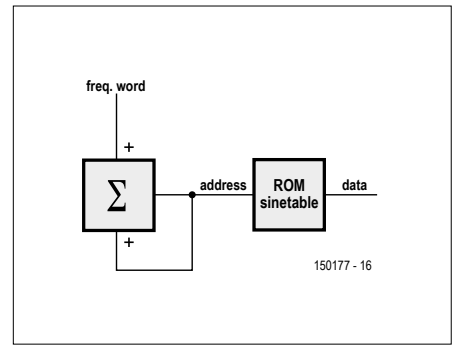

Figure 7. The basic operating principle of DDS. The block with the sigma symbol in it is the phase accumulator.
interface. The audio CODEC provides programmable gain and can drive a speaker or headphone directly. The local oscillator (LO) signals at the outputs of the two DACs are produced by two Direct Digital Synthesis (DDS) blocks inside the FPGA. Such a synthesizer consists of a so-called phase accumulator register whose value is increased by a fixed amount at every clock cycle of the 120-MHz DAC clock (which is derived from the internal PLL of the FPGA), thus the increase determines the frequency. The accumulated value is used as an address into a sine table; the value found at that address is sent to the DAC (**Figure 7**). The frequency word for DAC A, which forms the tunable LO, is 25-bits wide. This corresponds to a frequency step of $120 \times 10^6 / 2^{25} = 3.57$ Hz. In addition, there is a fine-tune mechanism, implemented with fractional values, giving a final resolution of 0.44 Hz. For the second LO, which is a fixed frequency for conversion between the first IF and the second, the corresponding DDS is implemented with a lower resolution to save FPGA resources — it has a precision of about 38 Hz.